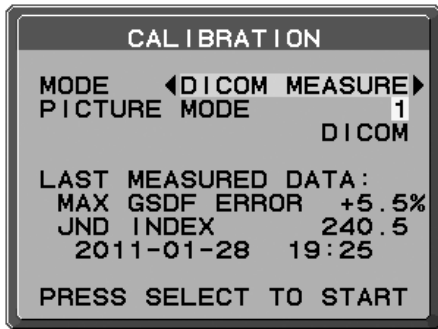

Figure D.1
1. Use "LEFT" or "RIGHT" to select DICOM MEASURE in the MODE selection (**Figure D.1**).